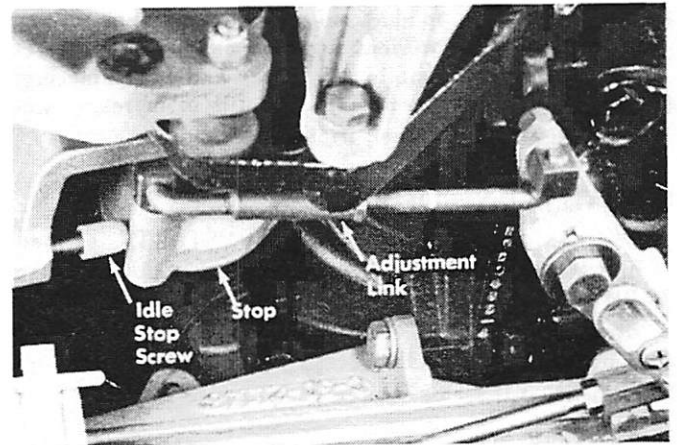

Figure 8. Idle Stop Screw
10. Position vertical lever so that magneto is held lightly against idle stop screw. (Figure 8)
13. Turn handle grip to full throttle position and back to idle. Check that magneto is held lightly against idle stop screw. (Figure 8) If more adjustment is required, it can be obtained by adjusting link between throttle lever and throttle control shaft. (Figure 8)